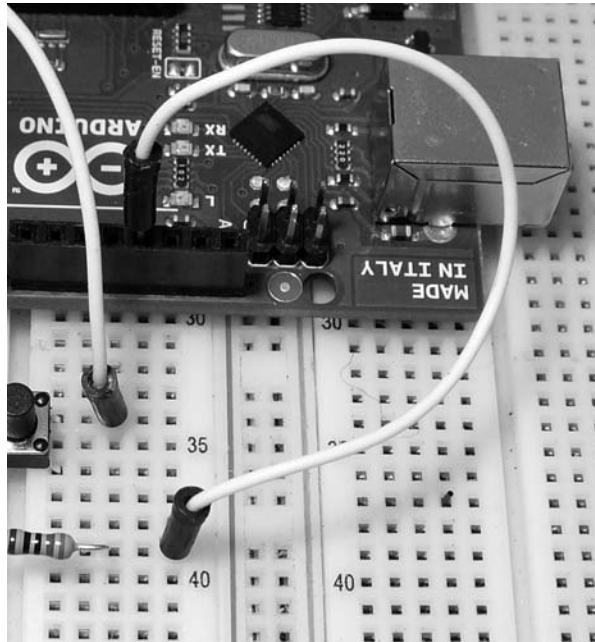

Figure 4-25: Connecting the LED branch to the Arduino
6. Connect a wire from the right side of the 560  $\Omega$  resistor to Arduino digital pin 12, as shown in Figure 4-25.